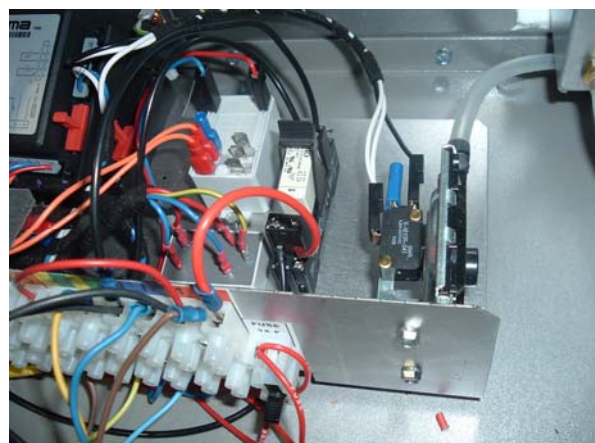

fig.3 – Detail of relay position.
3. Locate and position the pre-wired relay assembly (fig.1) onto the mounting plate utilising a spare pre-punched hole (fig.3).